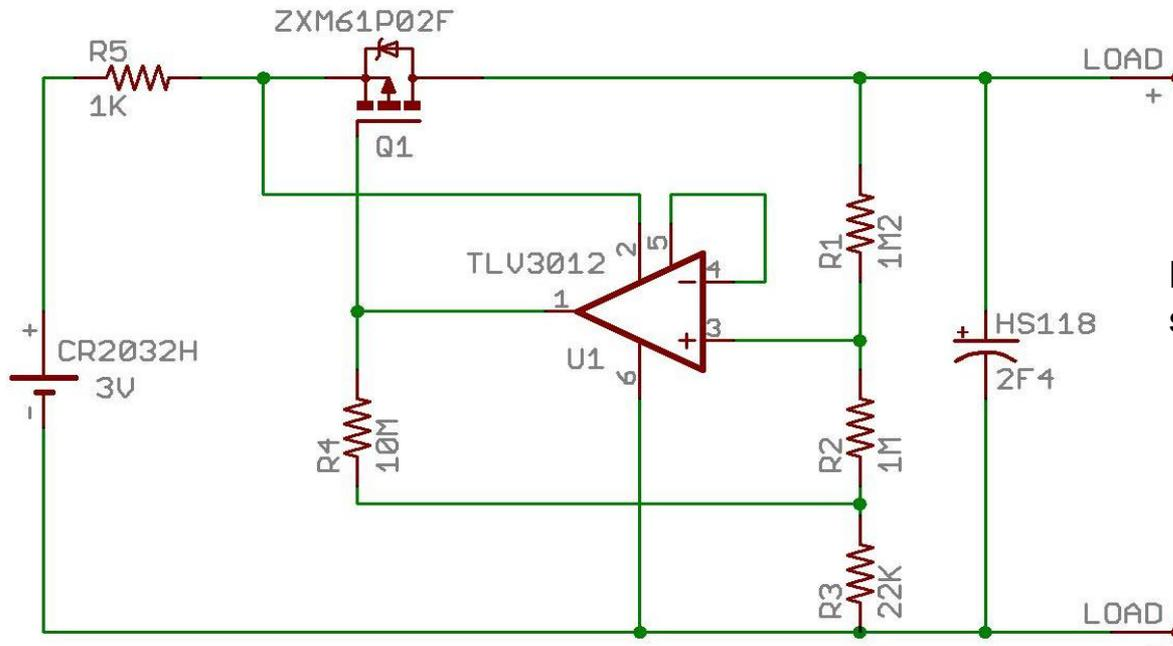

Fig 4: Button battery supercap charger circuit
- R determined so $T_{recharge} < 5RC$, supercap charged to 99% of V_{batt} . In the circuit of Fig 4, this would be $5 \times 2400 = 3hrs\ 20\ mins$